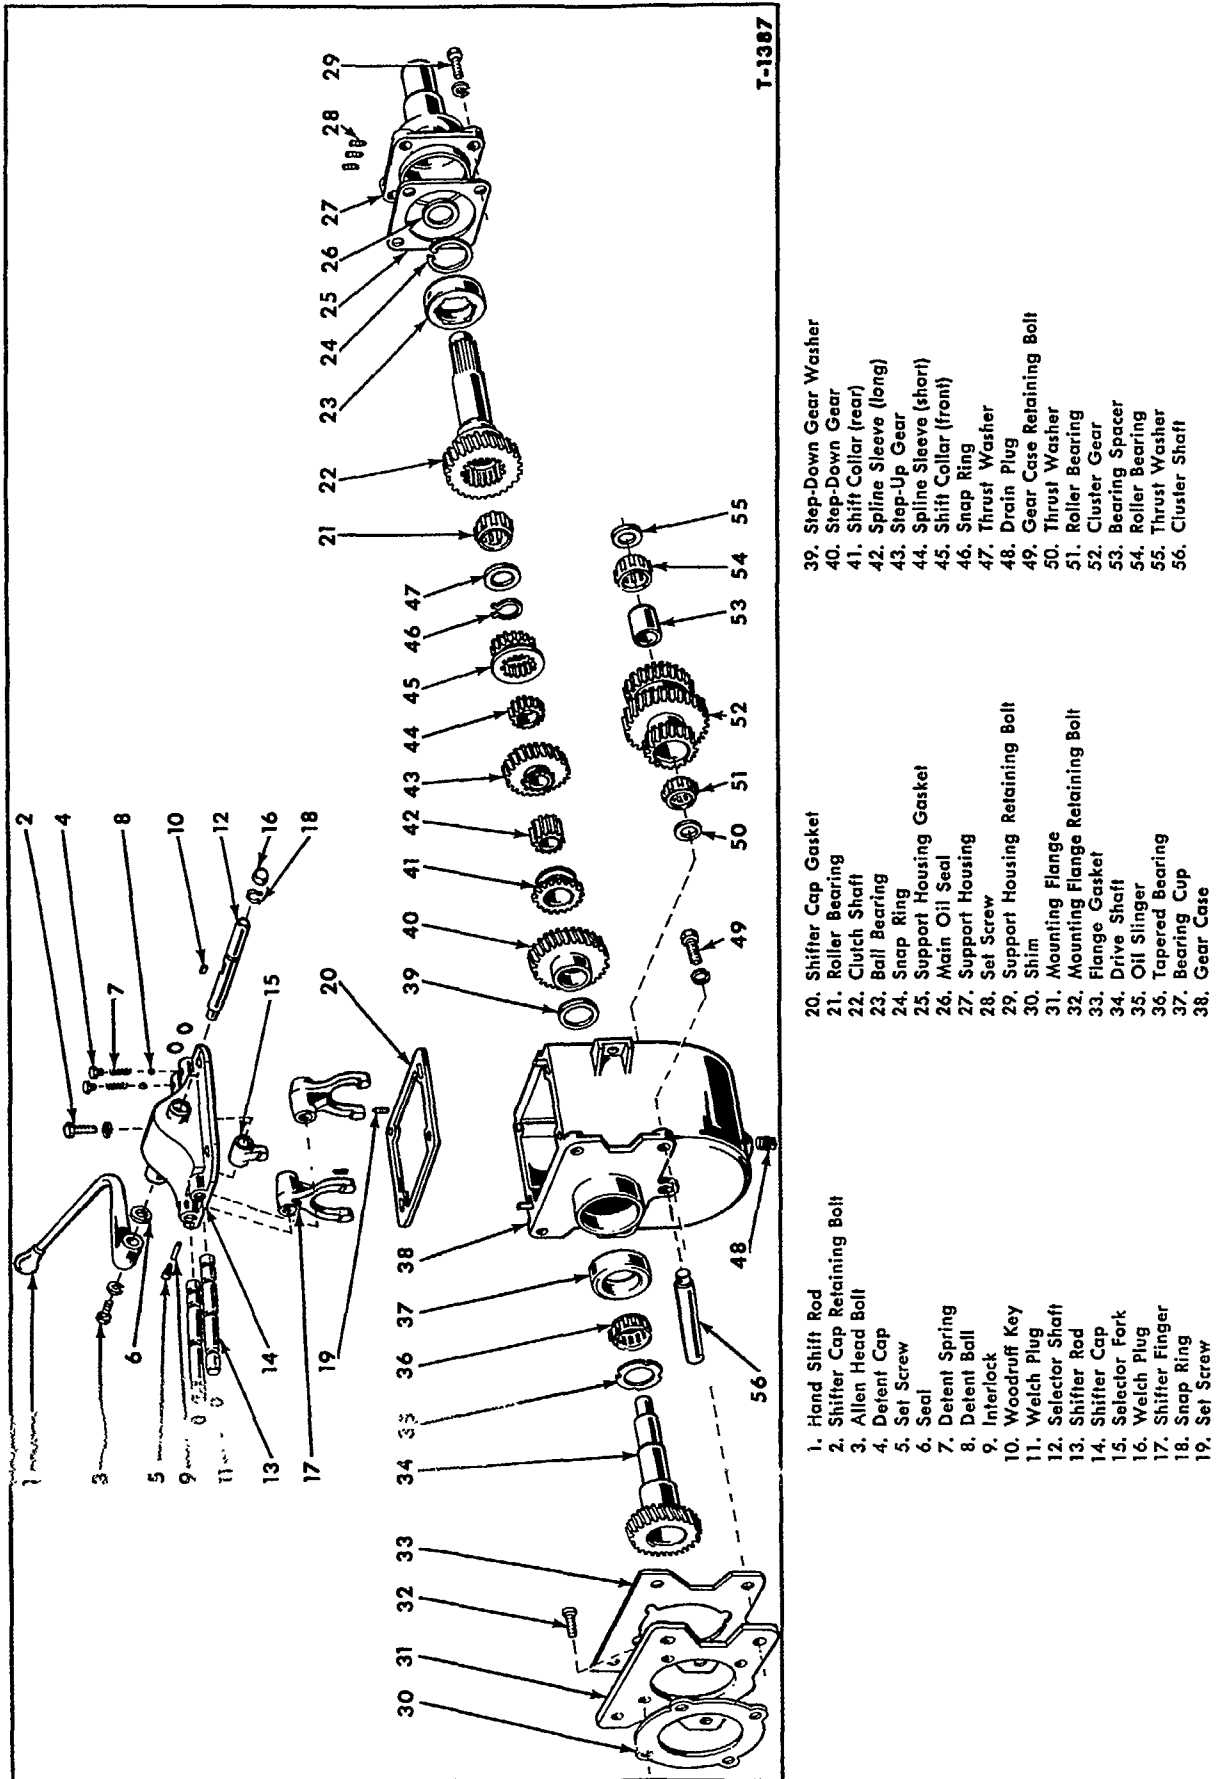
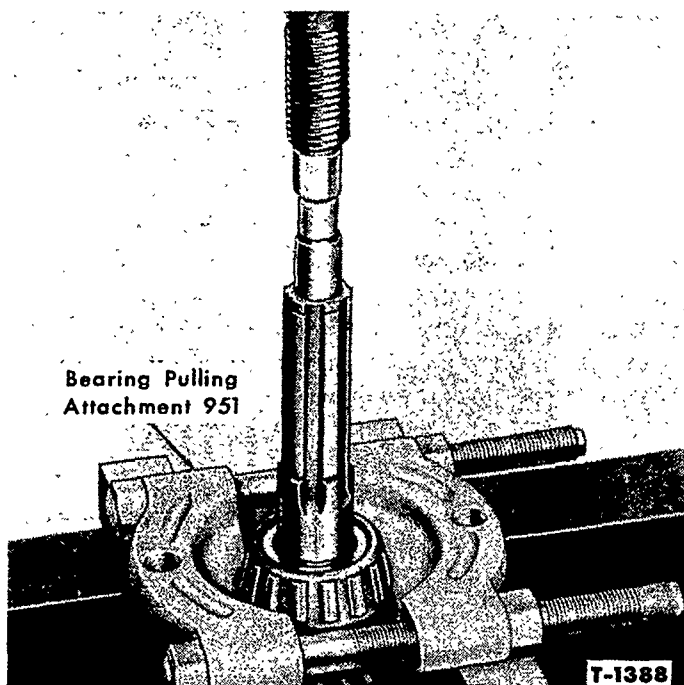
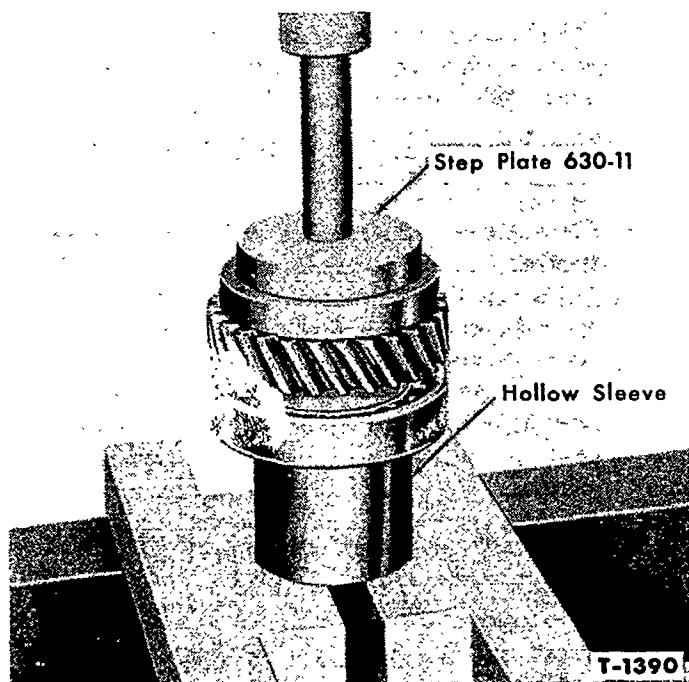
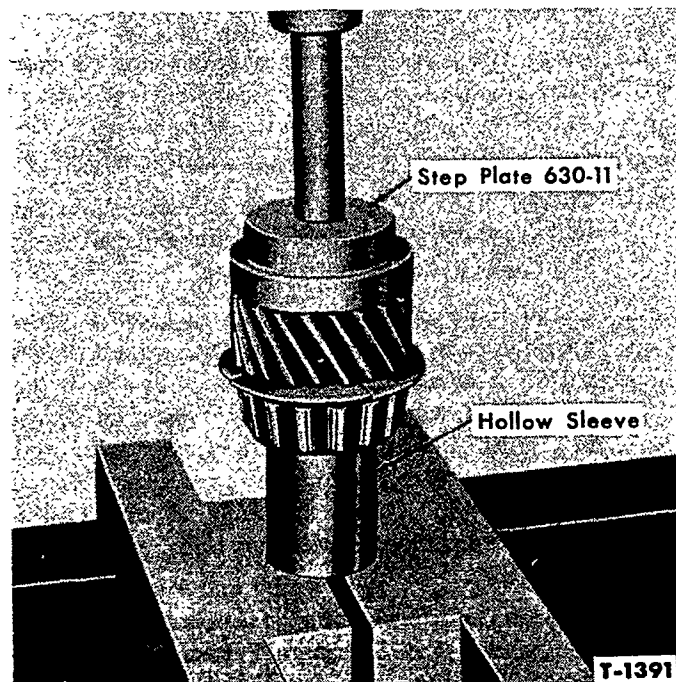

Figure 32—Step-Up and Step-Down Transmission—Disassembled
Figure 33—Removing Tapered Bearing from Drive Gear
Figure 35—Installing Clutch Shaft Bearing
Figure 36—Installing Tapered Bearing on Drive Shaft
3. Remove the four bolts (29), Figure 32, and lock washers that secure the clutch shaft support and clutch shaft assemblies to the front of the Sherman Transmission. Separate these assemblies from the gear case and remove the gasket (25) from the support housing.
4. Remove the Allen head bolt (3) and lock washer from the Sherman Transmission hand shift rod (1) and remove the shift rod from the transmission.
5. Remove the four bolts (49) and lock washers that secure the Sherman Transmission to the mounting flange. Withdraw the transmission assembly from the tractor transmission case.
6. Remove the four Allen head bolts (32) that secure the mounting flange to the tractor transmission and withdraw the flange (31) and shims (30) from the housing.
1. Remove the magnetic drain plug (48), Figure 32, from the bottom of the gear case (38) and drain the oil from the transmission.
2. Remove the four bolts (2) and lock washers that secure the shifter cap assembly (14) to the gear case and remove the assembly and gasket (20).
3. Remove the roller bearing (21) and thrust washer (47) from the front of the drive shaft (34).
4. Remove the snap ring (46), the front shift collar (45), short spline sleeve (44) and step-up gear (43) from the drive shaft.
5. Remove the rear shift collar (41) from the long spline sleeve (42) and remove the long spline sleeve from the drive shaft. Tag the rear shift collar for identification to facilitate reassembly.
6. Withdraw the drive shaft (34) from the rear of the case, then lift the step-down gear (40) from the case.
7. Remove the step-down gear washer (39) from shaft. Using Bearing Pulling Attachment 951 and arbor press, as shown in Figure 33, remove the tapered bearing (36) and oil slinger (35) from the drive shaft.
8. Drive the cluster shaft (56), Figure 32, toward
14. Remove the main oil seal (26), Figure 32, from the support housing (27) with Puller 956-2 and a slide hammer.
15. Remove the two detent caps (4), detent springs (7), and detent balls (8) from the shifter cap assembly.
16. Remove the lock wire securing the drilled head set screws (19) to the shifter fingers (17) and then remove the set screw from each finger.
17. Remove the Welch plugs (11) from the shifter rod bores at the rear end of the shifter cap. The rear end is the end opposite the detent balls.
18. Drive the shifter rods (13) and Welch plugs (11) out the front of shifter cap (14) and remove the shifter fingers (17). The shifter fingers and shifter rods are identical and completely interchangeable.
19. Remove the socket set screw (5) located in the side of the shifter cap and remove the interlock (9).
20. Remove the snap ring (18) from the groove in the selector shaft (12). Slide snap ring and selector fork (15) off the end of the shaft. Remove the Woodruff key (10) from selector shaft and draw the shaft out of its bore.
21. Remove the shifter cap seal (6) from the selector shaft bore.
22. Place the gear case on the bed of an arbor press, with the rear end of the case facing down. Position Step Plate 630-11 on the wide shoulder of the tapered bearing cup. Bring the ram of press down on the step plate and remove the bearing cup (37) from the gear case.
1. Place the gear case (38), Figure 32, on the bed of an arbor press with the rear end of the case facing up. Position the bearing cup (37) in the gear case with the wide shoulder of the cup facing down. Place Step Plate 630-13 on narrow shoulder of cup, bring ram of press down on plate and press the cup into the case until it bottoms on the seat.
2. Install a new seal (6) in the selector shaft bore in the shifter cap. Use a step plate or suitable installer. Start the selector shaft (12) in its bore
- and place the selector fork (15) and snap ring (18) on the shaft. Insert Woodruff key (10) in its groove and slide the fork on the shaft until key engages the keyway in the fork. Then position the snap ring in the groove in the shaft.
3. Start the shifter rod (13) in the bore farthest from the interlock plug location and with the two grooves toward the detent end of the shifter cap. Position a shifter finger (17) on the rod so that the selector fork engages in the recess in the shifter finger. Align the tapped hole in the shifter finger with the center groove in rod and secure the finger to shaft with a drilled head set screw (19).
4. Place the interlock (9) in its bore and install the interlock set screws (5).
6. Place detent balls (8) in their bores. Place a detent spring (7) on top of each ball and install the detent caps (4).
7. Install new Welch plugs (11) in the ends of each shifter rod bore.
8. Install a new main oil seal (36) in the support housing.
9. Install the ball bearing (23) on the clutch shaft (22) with a step plate, an arbor press and hollow sleeve, as shown in Figure 35. Install the snap ring (24), Figure 32, in groove in shaft.